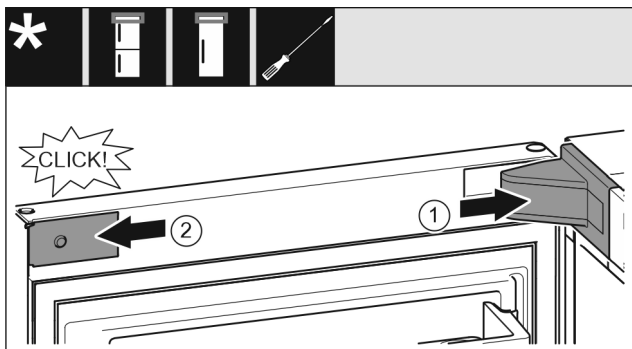

Fig. 17
- ▶ Position the bearing bracket and latch it in place. If necessary push it apart carefully. *Fig. 17 (1)*
- ▶ Position the panel on the side and latch into place. *Fig. 17 (2)*